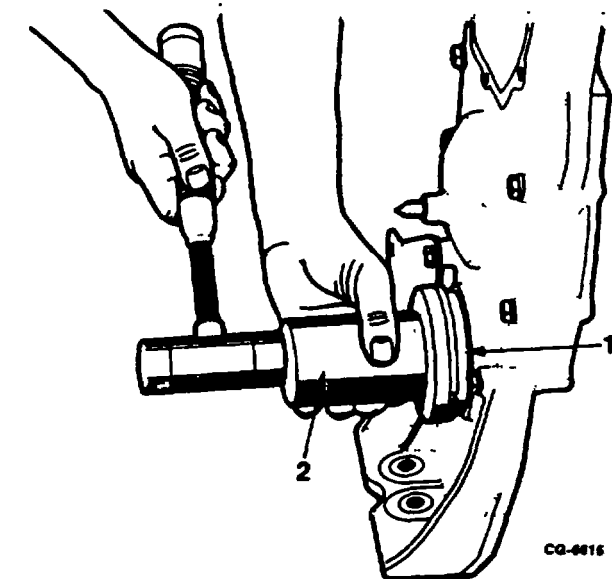

Figure 168. Installing Engine Front Cover Oil Seal
- c. Place installer over end of crankshaft and drive seal into cover (Figure 168). Seal is properly located when inner shoulder on tool contacts machined surface of front cover.